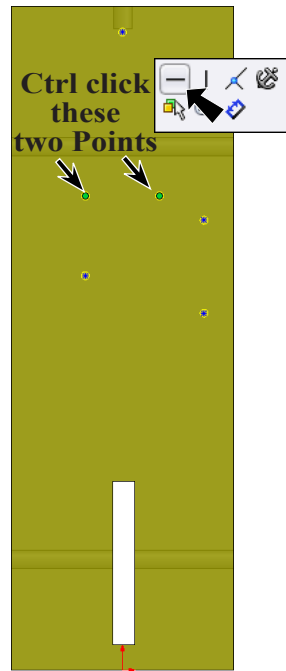

Fig. 34
Step 7. **Ctrl click the two top Points** to select both. **Release Ctrl key** and click **Make Horizontal**  on the Content menu, **Fig. 34**.